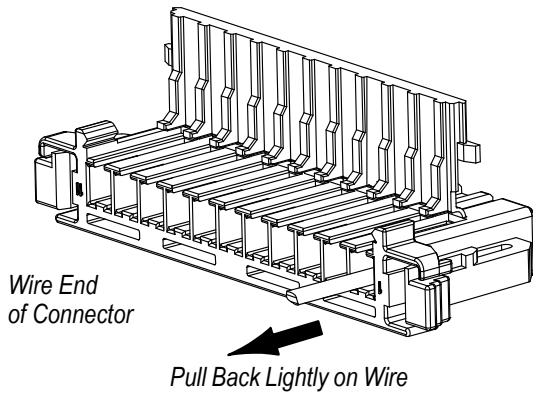

Figure 3
3. Pull back *lightly* on the wire to ensure that the contact has been fully engaged in the contact cavity. See Figure 3.